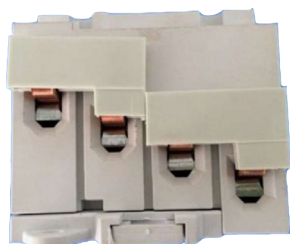

Figure 1
3. **Figure 1** Shows the correct wiring.